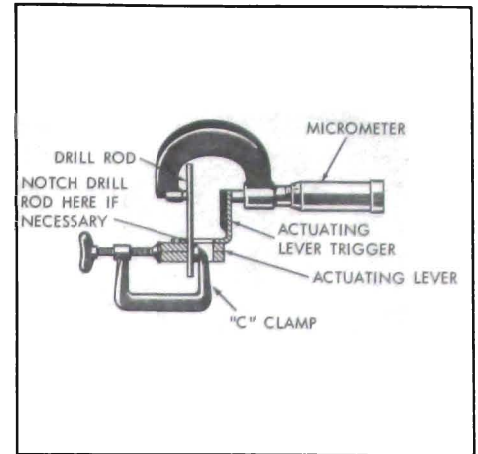
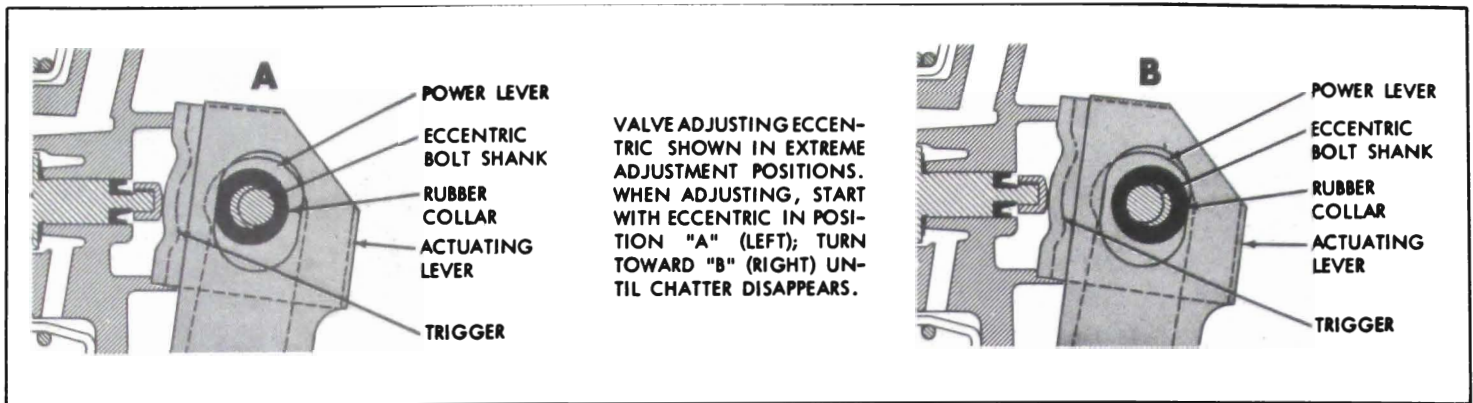

Figure 9-35—Checking Lever Trigger Position
Figure 9-37—Valve Adjusting Eccentric
1. Check actuating lever trigger position as shown in Figure 9-37. Drill rod, when clamped as shown, must be perpendicular to flat side of actuating lever and tight against side of slot. Notch drill rod if required to maintain squareness. Measure the trigger position as shown in Figure 9-35. Micrometer reading should be 0.950 inches plus or minus 0.005 inches.
4. Turn the valve adjusting eccentric until the unit chatters when the pedal is depressed in a sharp and rapid applying movement. Then turn the eccentric until the chatter disappears. Do not turn the eccentric more than necessary or the unit cut-in will be excessively high. (See Figure 9-37.)